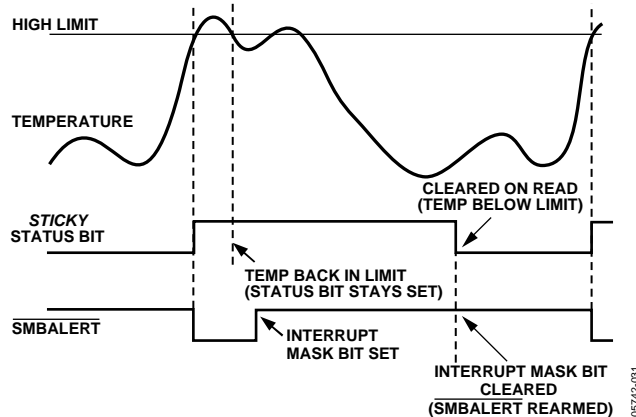

Figure 30. How Masking the Interrupt Source Affects  $\overline{\text{SMBALERT}}$  Output
- Periodically poll the status registers. If the interrupt status bit has cleared, reset the corresponding interrupt mask bit to 0. This causes the  $\overline{\text{SMBALERT}}$  output and status bits to behave as shown in Figure 30.